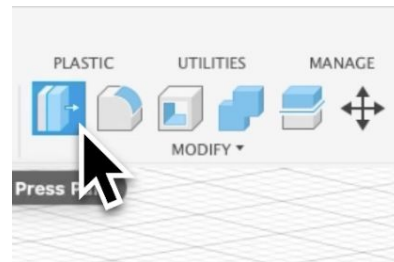

Figure 1.6
- To ensure the lid fits snugly but not too tight, use **Modify > Press Pull** (see Figure 1.6).